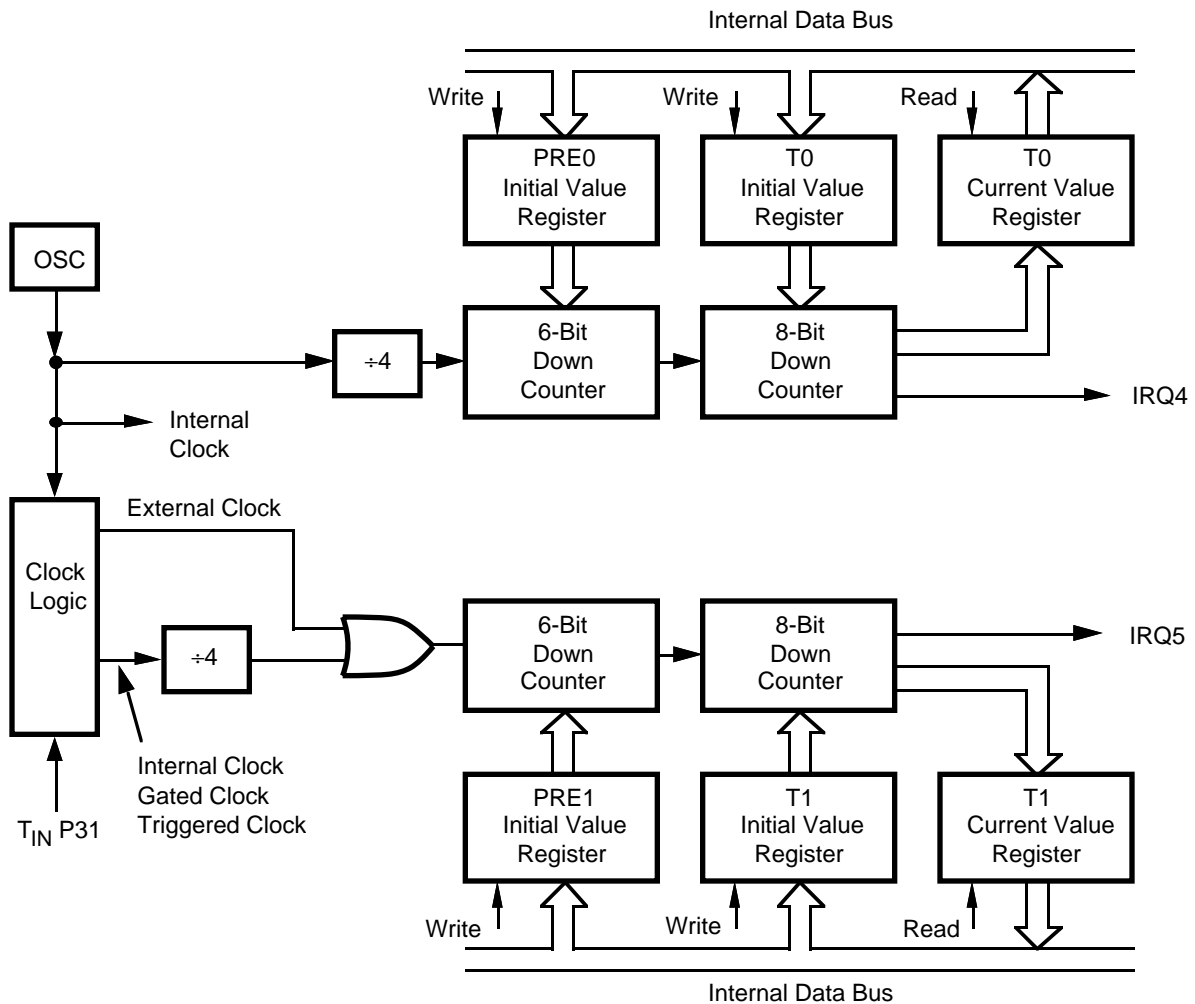

Figure 16. Counter/Timers Block Diagram
**Counter/Timer.** There are two 8-bit programmable counter/timers (T0 and T1), each driven by its own 6-bit programmable prescaler. The T1 prescaler can be driven by internal or external clock sources, however, the T0 can be driven by the internal clock source only (Figure 16).